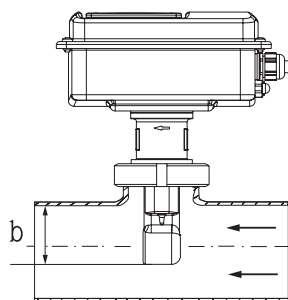

Fig. 14: Consider the immersion depth
- Choose immersion depth b of the sensor in the medium such that the coil body is completely immersed (see fig. 14). The pipe has to be completely filled with water. Gas bubbles will have an influence on the displayed value (avoid installation in an open falling tube).